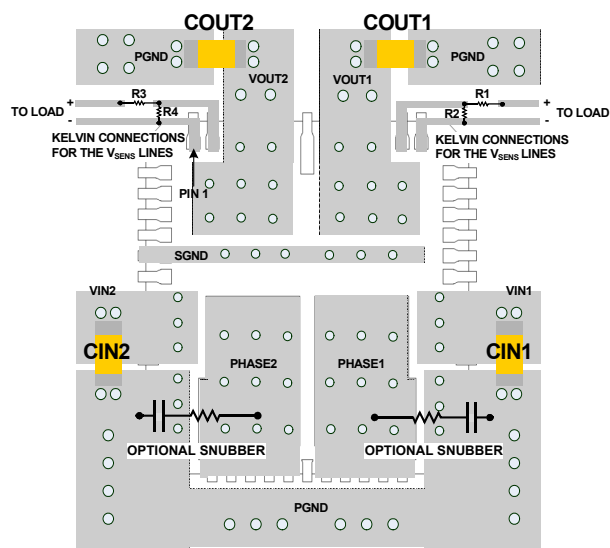

FIGURE 32. RECOMMENDED LAYOUT
To achieve stable operation, low losses, and good thermal performance, some layout considerations are necessary (Figure 32).
- Use a separated SGND ground copper area for components connected to signal ground pins. Connect SGND to PGND with multiple vias underneath the unit in one location to avoid the noise coupling, as shown in Figure 32. Don't ground vias surrounded by the noisy planes of VIN, PHASE and VOUT. For dual output applications, the SGND to PGND vias are preferred to be as close as possible to SGND pin.
- Optional snubbers can be put on the bottom side of the board layout, connecting the PHASE to PGND planes, as shown in Figure 32.